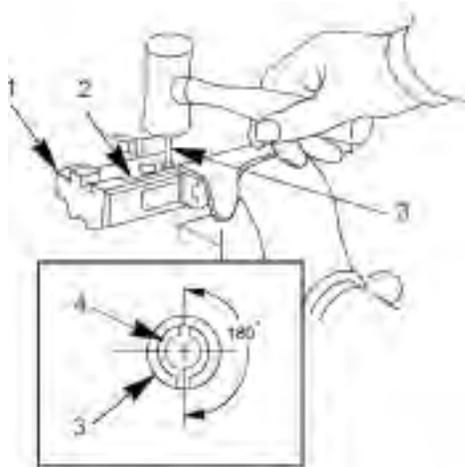

Figure 12. Small Spring Pin.
7. Place slide body (Figure 12, Item 1) in protected jaw vise with surface (Figure 12, Item 2) facing up.
8. Drive new large spring pin (Figure 2, Item 3) into slide body (Figure 12, Item 1). Slot of new large spring pin (Figure 12, Item 3) must be installed to bottom of slide body (Figure 12, Item 3) as shown. Drive in spring pin (Figure 12, Item 3) flush with surface (Figure 12, Item 2).
9. After positioning slot of new small spring pin (Figure 12, Item 4), opposite the slot of the new large spring pin (Figure 12, Item 3) (see insert), drive in flush (equal distance) below both sides of slide body (Figure 12, Item 1).